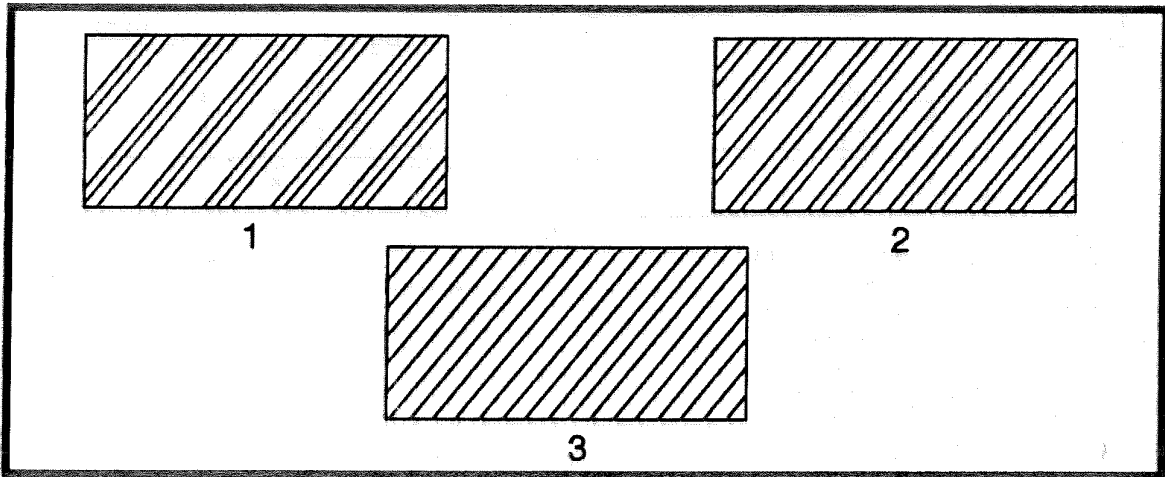

Fig. 3.8. Material Symbols.
- (2) On occasion, a mechanic may need to make a simple sketch of a proposed repair to an aircraft, a new design, or a modification.
30. (Refer to figure 3.8) Which material section-line symbol indicates cast iron ?